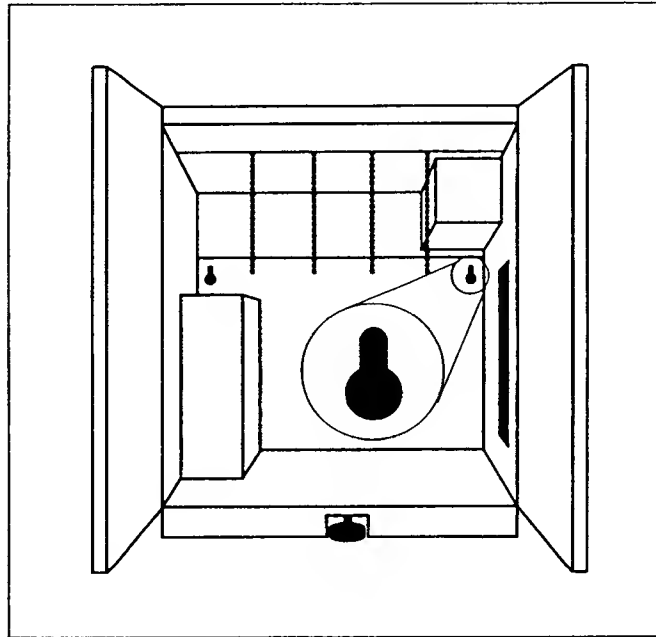

Figure 2-19. Tightening top screws from inside of the Main Weldment Assembly.
- h. Tighten the two top screws to the back panel from inside of the main weldment assembly. You will need to hold back the soundproofing foam in order to reach the screws (Figure 2-19).